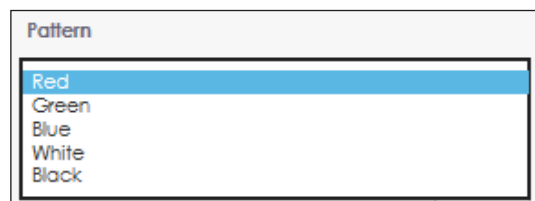

Figure 69: Output Color Patterns
- Choose a display output color from the **Pattern** drop-down list to view the display's current color calibration and evaluate the need for manual edge adjustment. Usually white is the first color. Refer to **Figure 69**.